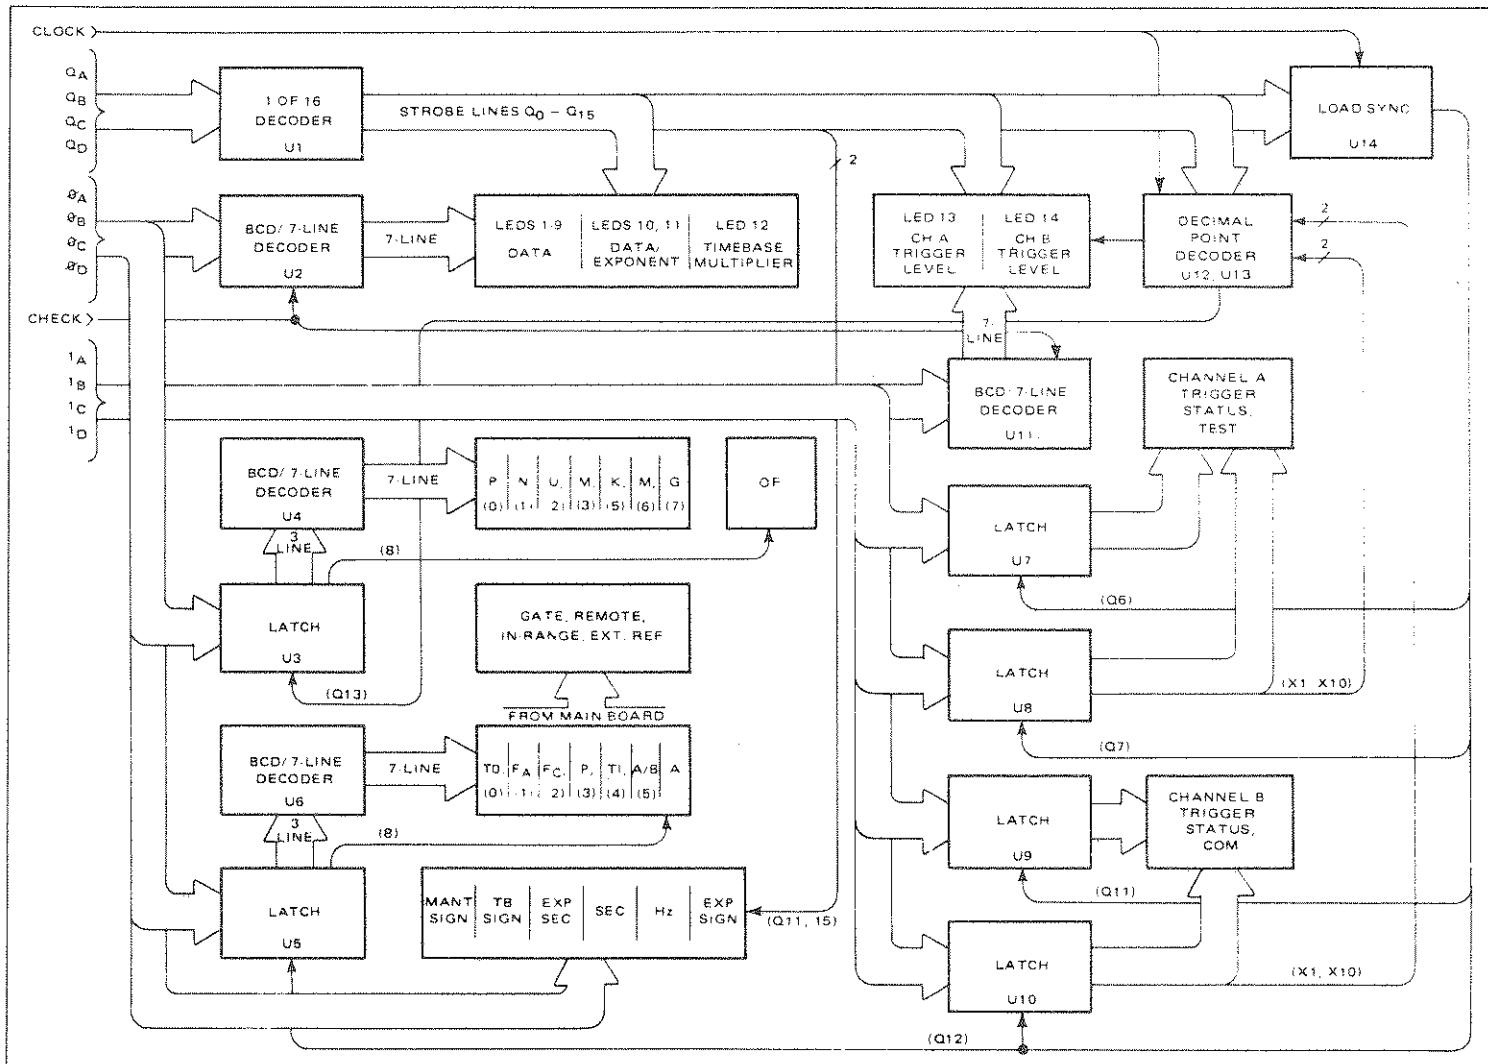

Figure 4.17 - Display Board Block Diagram
4.4.6.1 The display board, shown in block form in figure 4.17, is mounted directly behind and is in parallel with the instrument front panel. On the board are all of the visual readouts along with the drivers, decoders, latches, and synchronizing circuitry required to control the readouts. Most of the input data for the display board is supplied in multiplexed form across 12 lines from the microprocessor board.